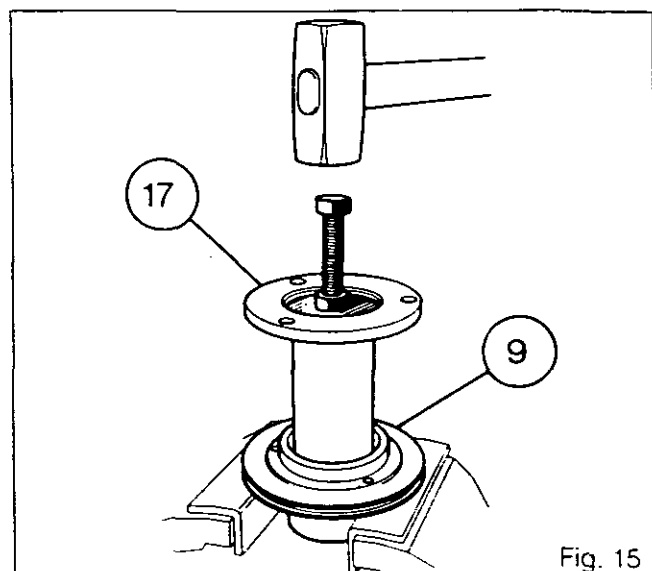

Fig. 15
- Lubricate the seal /15\ and the guide (17).
Insert the guide (17) into the front of the release bearing carrier (9) using the tool shown Fig. 15. (See Section J).